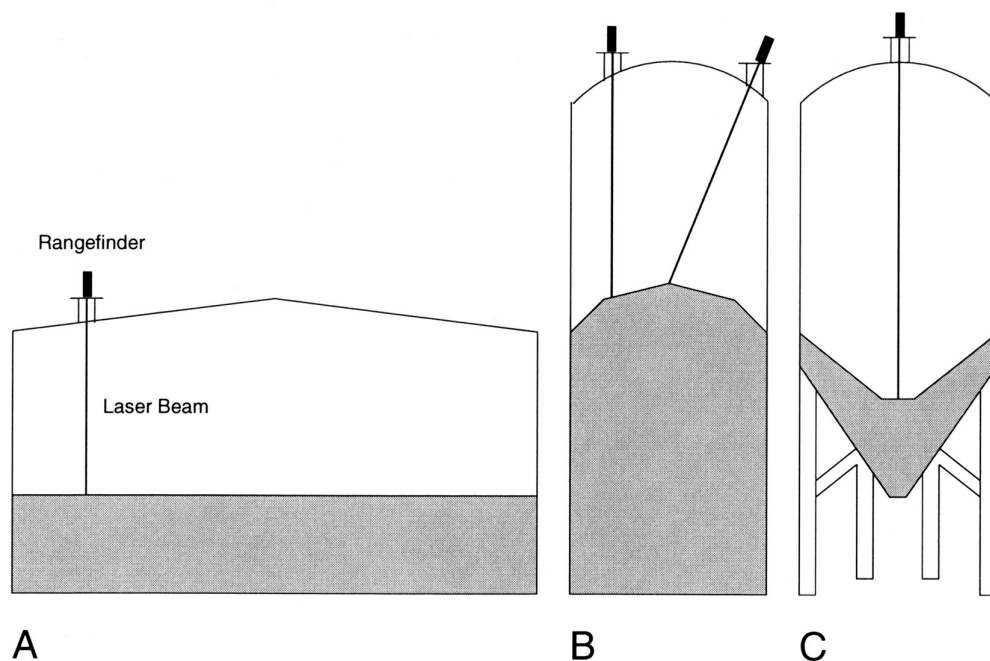

Figure 4: Installation Configurations
1. Locate a suitable installation site ("Mounting and Application Information", page 19, and Figure 4).